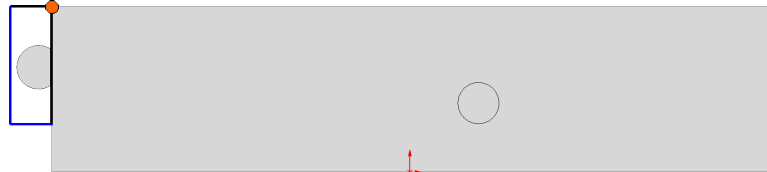

Fig. 55
Step 4. Sketch **corner rectangle coincident with top vertex of part**, **Fig. 55**.
Step 5. Click **Smart Dimension**  (S) on the Sketch toolbar.